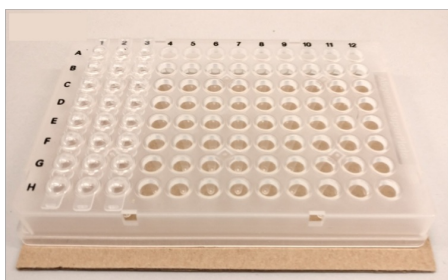

Figure 9
- 9 Place one piece of cardboard below and the other above such that the plate is sandwiched between them (Fig. 9).